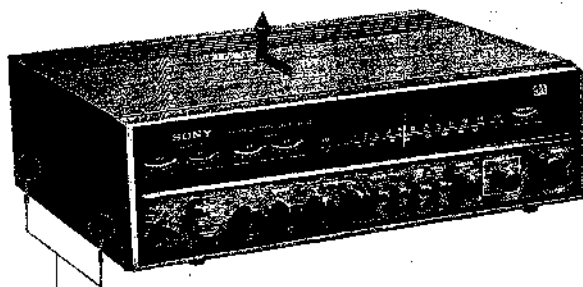

Fig. 2-1. Top cover removal
1. Remove the two screws at each side of top cover shown in Fig. 2-1.
2. Carefully push the top cover backward and pull it up as shown in Fig. 2-1.